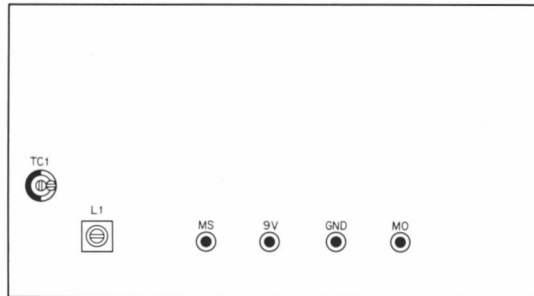

Fig. 29 MARKER unit
- 2) Set the FUNCTION switch to CAL 25 kHz and adjust TC1 in the marker unit for 100,000 Hz \pm 1 Hz (refer to **Fig. 29**).